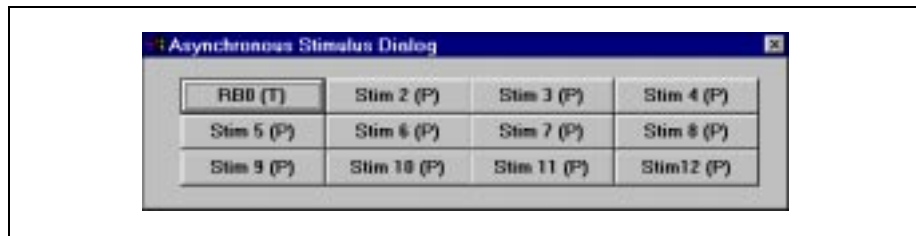

Figure 5.28: Asynchronous Stimulus Dialog – RB0(T)
Put the cursor over “RB0” and double click. The Asynchronous Stimulus dialog should now look like Figure 5.28. Note that the button now shows “RB0 (T).”